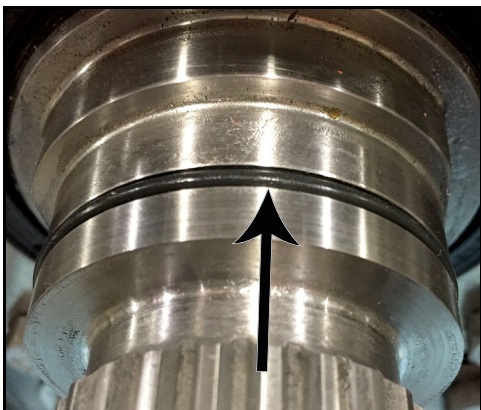

Figure 123 - O-ring installed
17. Figure 123 shows the O-ring installed in the shaft groove.